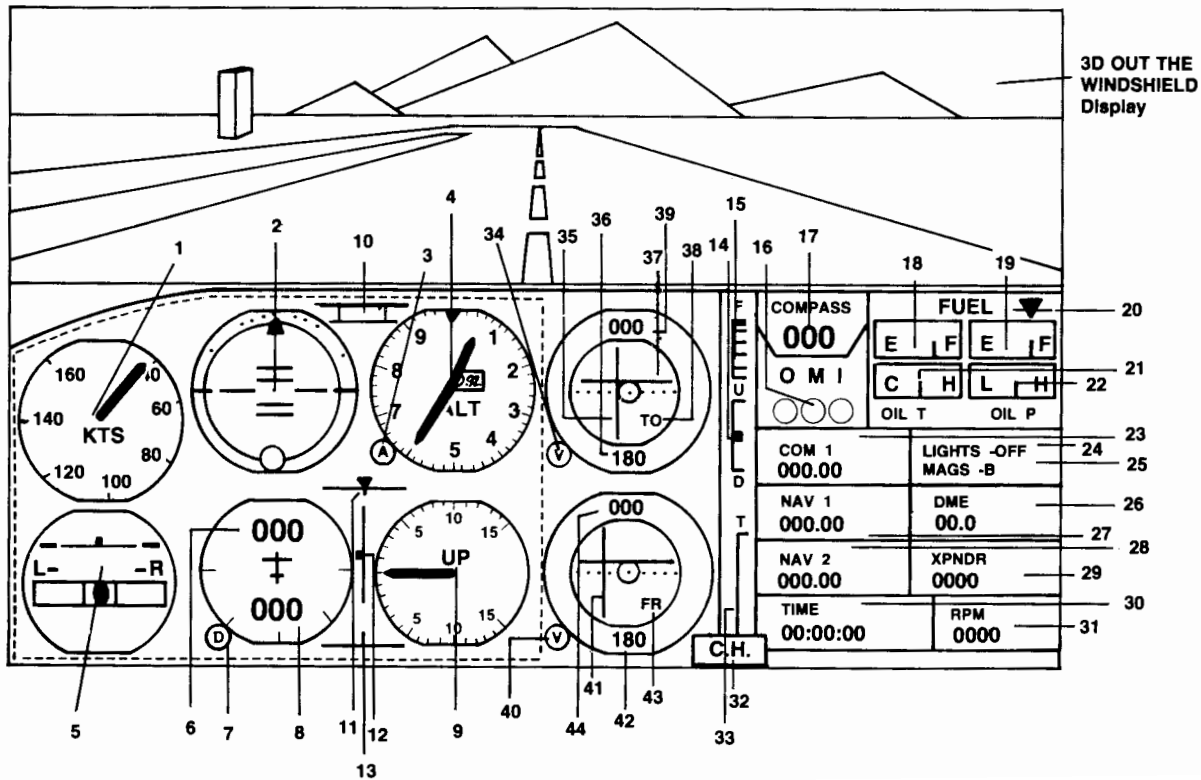

Figure 1. Display Screen
The FS2 has all instruments and equipment required under FAA regulations parts 91.33, 91.24, and 91.52 for day and night visual flight rules (VFR) and day and night instrument flight rules (IFR) under non-icing conditions, including flight within terminal control areas. A digital clock with an *hours, minutes, seconds* readout now is accepted in place of a sweep second hand for instrument flight and is used in the FS2. Figure 1 defines the simulator's 3D display, flight instruments and radios. The display screen is split horizontally into two sections: the upper 3D out-the-windshield display, and the lower half instrument panel and radio stack.
The six basic flight instruments are grouped in the standardized instrument cluster shown in Fig. 1. This cluster includes:
Six radios are provided: the NAV1 and NAV2 (navigation), COM (communication), DME (distance measuring equipment), ADF (automatic direction finder), and transponder (see Fig. 1).
The NAV radios (items 26 and 28) are used to tune-in and identify VOR navigation aids (to be covered later). These are 200-channel radios that receive frequencies between 108.00 and 117.95 MHz with 50 kHz separation. These receivers control the omni-bearing indicators (Fig. 1, items 34-39 and 40-44). The NAV1 radio controls the top omni-bearing indicator, and the NAV2 radio controls the bottom omni-bearing indicator.